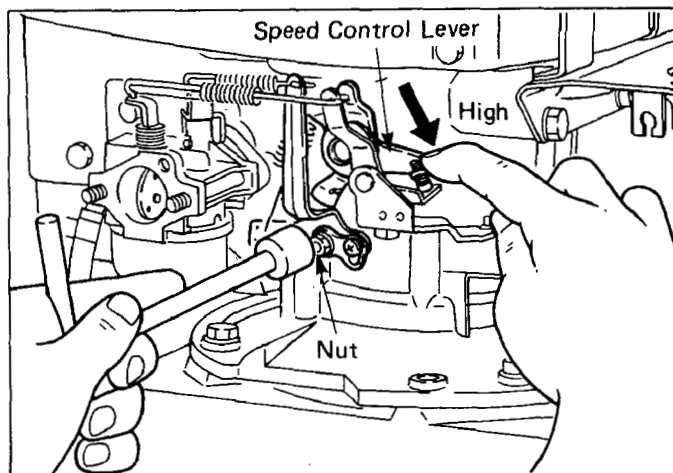

Fig. 17
- e) Set the speed control lever at the position "High," and tighten the nut. (See Fig. 17.)